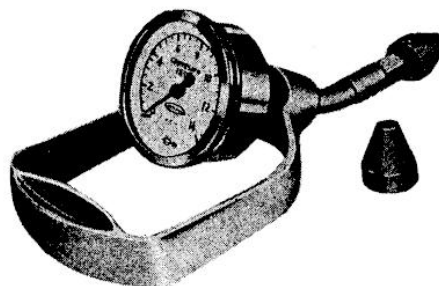

Fig. 1 Compression Gauge
- (1) Check the cooling water: water level and extent of filthiness.
- (2) Inspect the battery: all connections, level of electrolyte, specific gravity of electrolyte and voltage.
- (3) Inspect the oil: amount, filthiness, classification and viscosity.
- (4) Cleaning of spark plugs and adjustment of their gaps.
- (5) Measurement of compression pressure of cylinders. The standard compression pressure of the engine is approx. 163 lbs. per. sq. in. at 350 r. p. m. Measurement of pressure is made in the following manner: (see Fig. 1) First, warm up the engine (temperature of cooling water, 70-80°C) then remove all spark plugs and pull out the throttle knob all the way (that is in the carburetor, the throttle valve and choke valve are fully opened); press a compression gauge against each spark plug hole, and, running the starter motor with a fully charged battery, read the maximum pressure obtained within 5-8 rotations of the motor. This measurement must be made as quickly as possible.